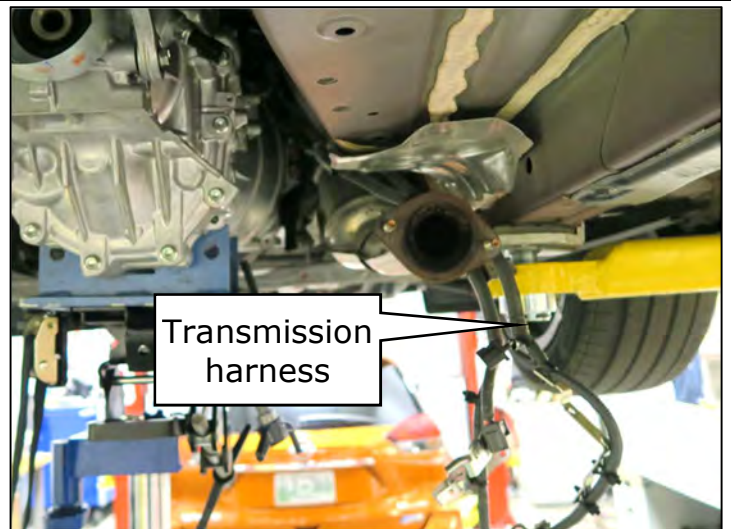

Figure 63
63. Route the harness over the catalytic converter as shown in Figure 63.